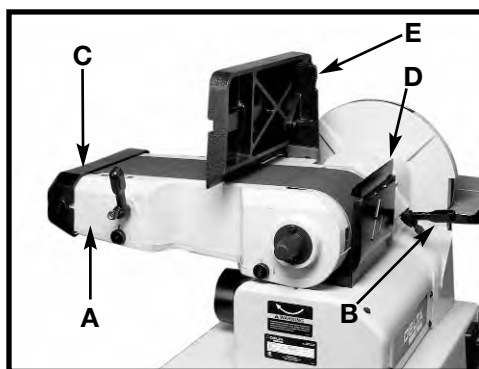
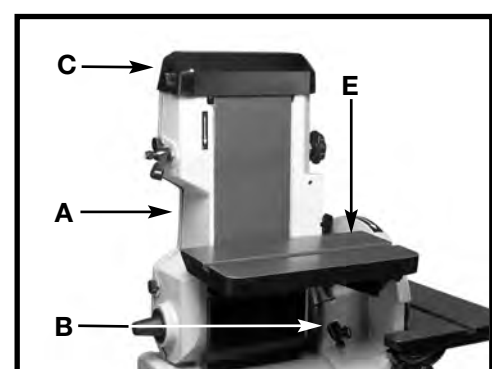

Fig. 30
Fig. 31
1. The sanding arm (A) can be used in the vertical position (Fig. 31), the horizontal position (Fig. 30), or any angle in between. Loosen the lock handle (B), position the arm (A) to the desired angle, and tighten the lock handle (B).
2. The top idler pulley cover (C) Figs. 30 and 31 can be removed to clear the workpiece when sanding in the horizontal position. For a long workpiece, lower the deflector plate (D) to clear the workpiece. Raise the deflector plate (D) to deflect saw dust when sanding a short workpiece.
NOTE: With the sanding arm (A) in the horizontal position (Fig. 31), use the table (E) or the accessory backstop to support the work.